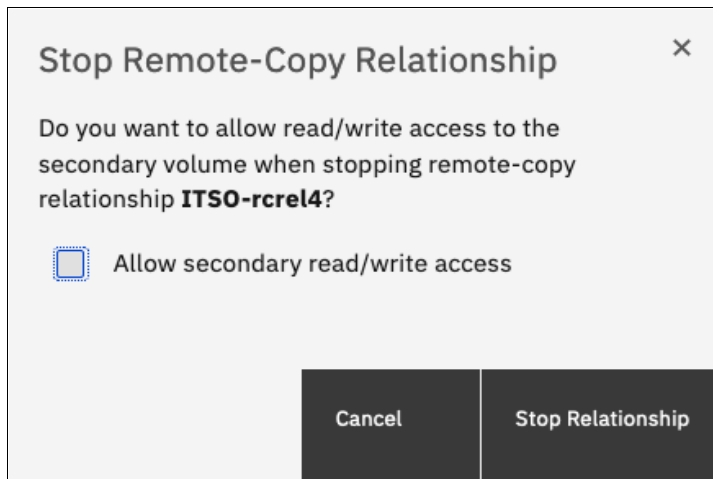

Figure 10-142 Granting read/write access to the auxiliary volume
- When an RC relationship is stopped, access to the auxiliary volume can be changed so that it can be read and written by a host. A confirmation message appears, as shown in Figure 10-142.